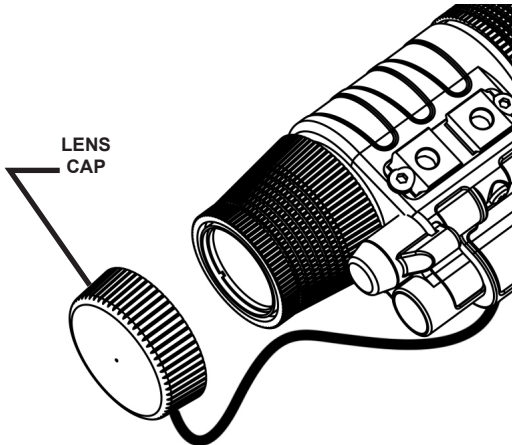

Figure 2-11 Lens Cap Installation
1. Orient the monocular and weapon mount as shown in Figure 2-11.